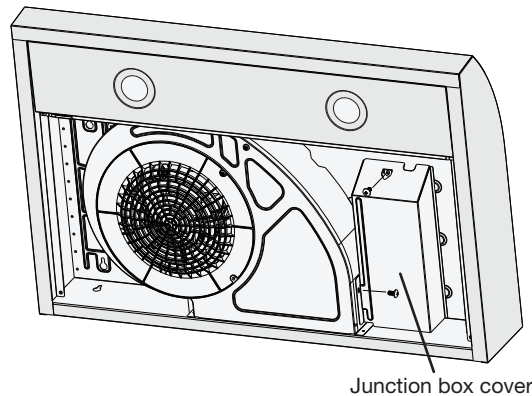
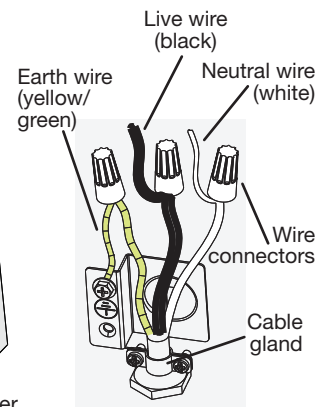

Figure 2
Figure 3
- Loosen two screws of junction box, and remove the junction box cover (Figure 2). Connect cable to range hood wiring using included wire connectors. Connect **BLACK** to **BLACK**, **WHITE** to **WHITE** and **GREEN** or **BARE WIRE** to **GREEN** ground screw. **DO NOT FORGET TO CONNECT THE GROUND** (Figure 3).